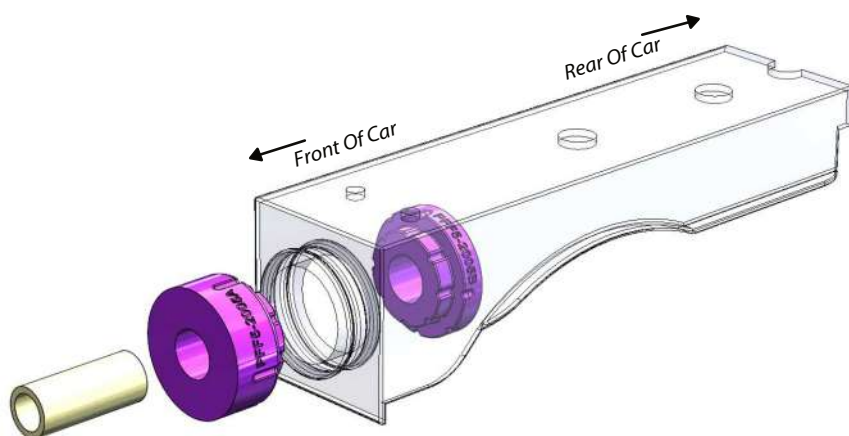

Figure 1
3. Insert the new polyurethane A bush into the bore from the front of the car and insert the polyurethane B bush from the rear of the car inside the chassis bracket. See figure 1.